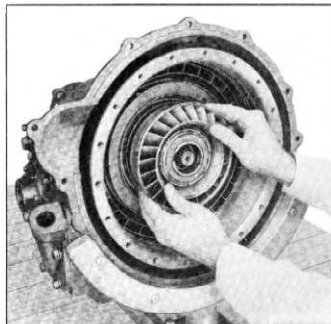

Fig. 141—Installing Stator Assembly
14. Install stator assembly to stator support (fig. 141).